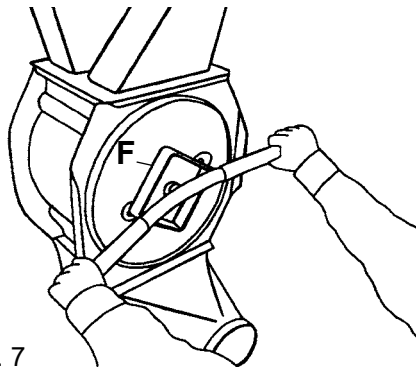

Fig. 7
5. Withdraw the rotor from the housing, see figure 7. It is easy to dismount the rotor, if the shown special tool (F) is used. The tool can be provided by Kongskilde, sales no. 121 000 514. Rotate the rotor clockwise simultaneously with withdrawing it from the housing. On mounting of the rotor use the puller for rotating the rotor, so that the driving-plate pin is engaged into gear.